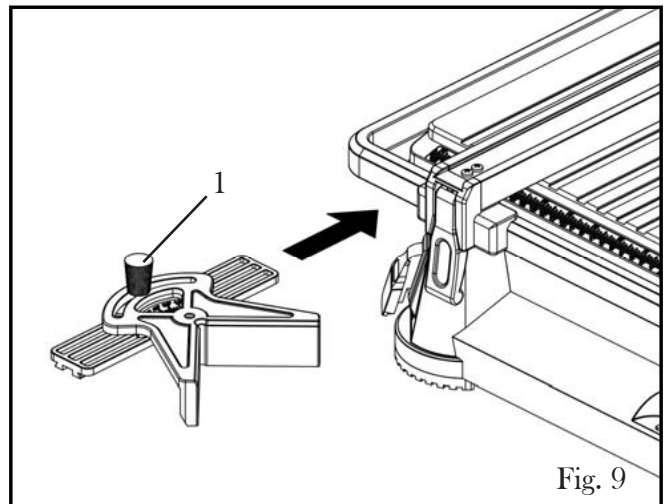

Fig. 9
INSTALLING THE MITER GUIDE (Fig. 9)
2. The miter angle can be adjusted from 0° to 45°. Loosen the miter guide knob (Fig. 9 - 1) and rotate the guide to the desired angle. Tighten the miter guide knob to lock the miter guide's angle.